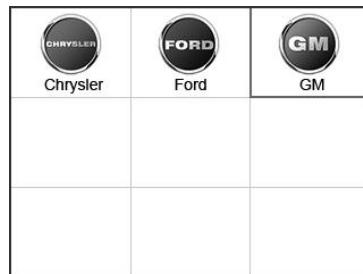

Figure 6.2
5. From the vehicle make screen, select a specific vehicle manufacture and press **OK** button. (Figure 6.2)
- 1) Select the **GM Logo** from the car make screen. (Figure 6.2)
- 1) Select the **Ford Logo** from the car make screen. (Figure 6.2)